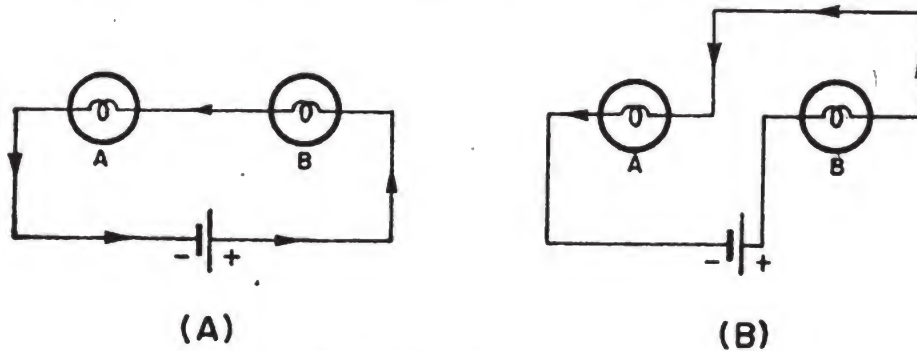

Figure 13.—Series circuit.
In (A) of figure 13 you have two devices connected in a **SERIES CIRCUIT**. In (B) of figure 13, the connections are changed so that they reverse